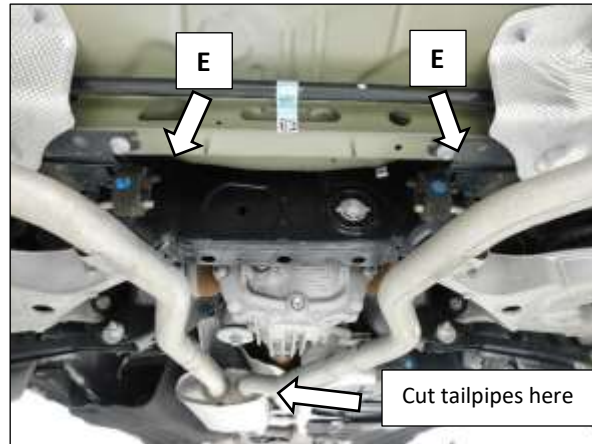

Figure 3
2. Cut the left and right tailpipe just after the muffler assembly and support the tailpipe. **Fig.3**
3. Apply penetrating oil to the rubber tailpipe isolators and remove the isolators. **Fig.3 (E)**